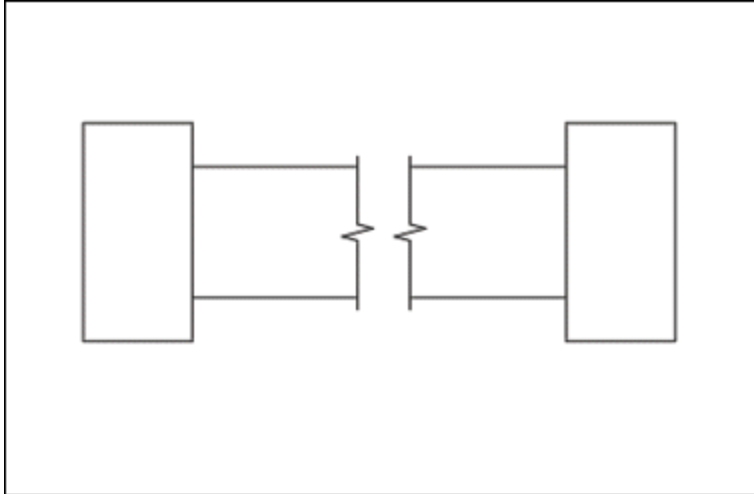

Figure-29. Broken view created
- After specifying parameters for break view, click on the **OK** button from the dialog box. The broken view will be created; refer to Figure-29.